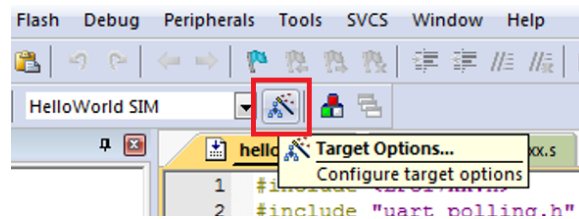

Figure 2.2: Keil IDE: Target Option Button
1. Click the Target Option button (see figure 2.2) to verify the following: